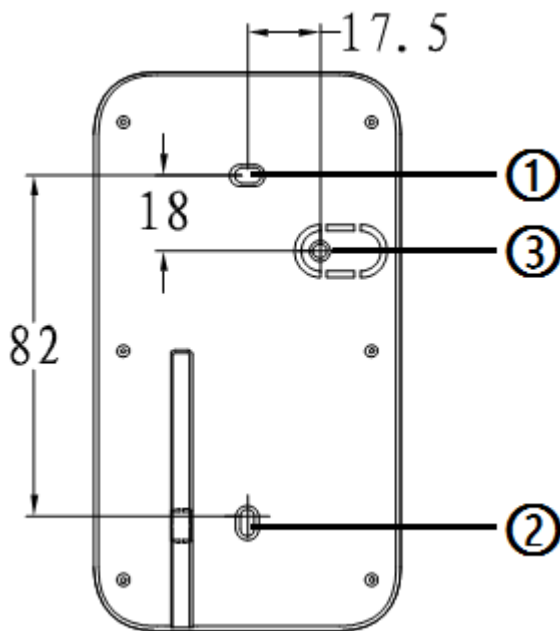

Figure 4-14
Step 2. Follow Figure 4-14. Line the drill holes as shown in the figure or by attaching the housing. Dig three holes on wall and insert one dowel in one hole each.